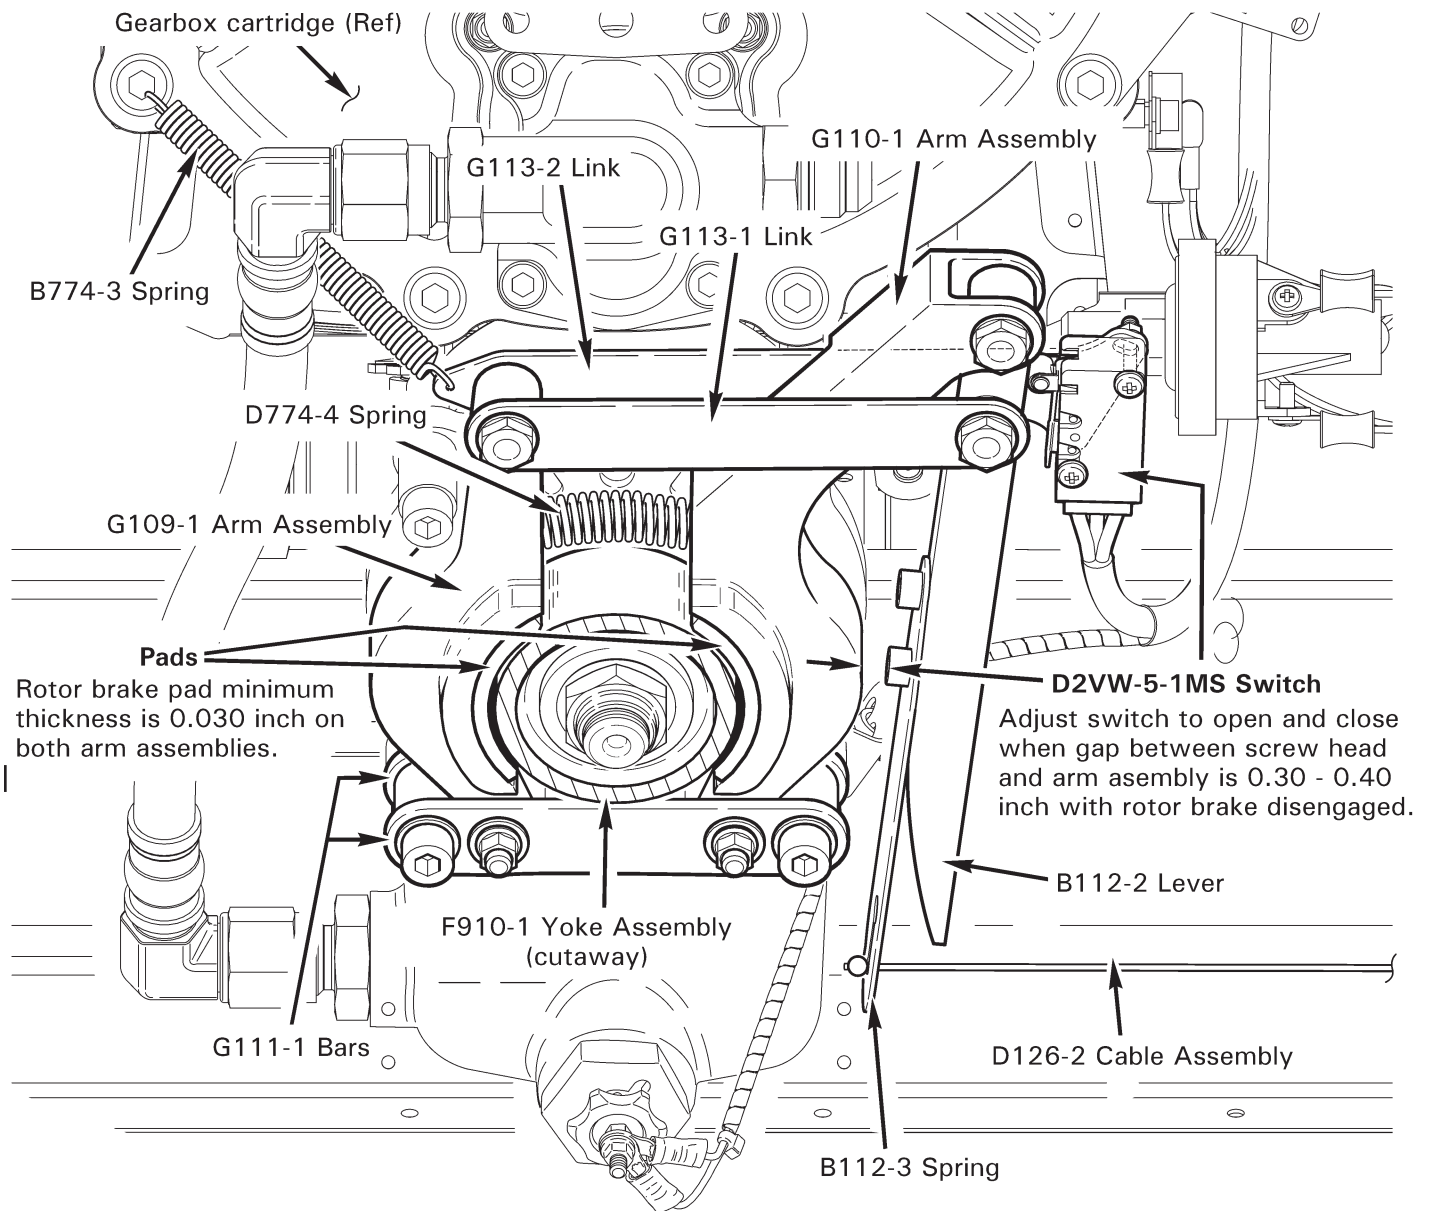

FIGURE 63-3 ROTOR BRAKE
2. Refer to Figure 63-3. Detach D126-2 cable assembly from B112-3 spring. Detach B774-3 spring from gearbox cartridge retaining screw or rotor brake assembly link.
1. Refer to Figure 63-3. Verify minimum 0.030 inch rotor brake pad thickness on both arm assemblies.
1. Refer to Figure 63-3. Lubricate spacers with A257-1 grease and install in new G110-1 arm assembly. Install hardware securing G110-1 arm assembly to (2) G111-1 bars and B112-2 lever, but do not torque.